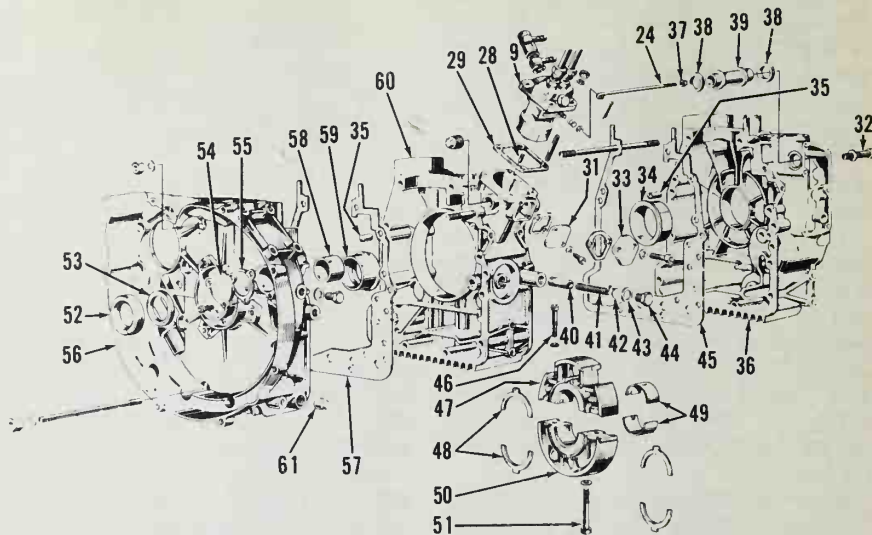
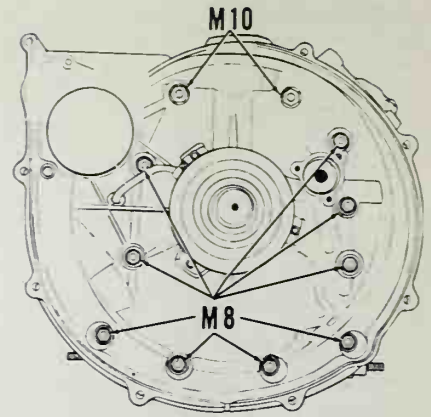

Fig. W2-14—Exploded view of crankcase assembly.
Fig. W2-23—View showing location of M8 and M10 nuts in flywheel crankcase section.
Distance (D—Fig. W2-17) between speed control rod ends should be 129 mm. Remove cover (31—Fig. W2-14) and place a rag underneath control rod so cotter pin cannot fall into crankcase. Detach cotter pin securing rod end and withdraw control rod (24). Adjust length of control rod by turning rod end (73—Fig. W2-17).
The camshaft is supported by bushings in the gear cover and crankcase. To inspect bushing (58-Fig. W2-14) in crankcase, remove flywheel and cover (54). If camshaft bushing (58) must be renewed, disassemble crankcase. Maximum allowable camshaft journal clearance is 0.2 mm. Camshaft bushings are available in undersizes of 0.25 and 0.50 mm.
R&R AND OVERHAUL. Refer to Fig. W2-14 for an exploded view of crankcase which is constructed in three sections: flywheel end, center and pto end.
is equipped with a fuel transfer pump. Unscrew eleven retaining nuts from crankcase flywheel section and separate flywheel section from remainder of crankcase. Remove socket head screw (32—Fig. W2-14 or W2-21) adjacent to camshaft bore. Separate center crankcase section with crankshaft from pto crankcase section. Remove control rod tube (39) and seals (38). Detach connecting rods. Unscrew two socket head screws (51) in bottom of center crankcase which secure main bearing support in crankcase. Press crankshaft and main bearing support out of center crankcase. Unscrew main bearing support screws (46) and separate support halves (47 and 50) from crankcase.
Install connecting rods and tighten rod nuts to 34.3 N·m. With control rod tube (39—Fig. W2-14) and seals (38) in place, mate pto crankcase section (36) with center crankcase section (60). Install socket head screw (32—Fig. W2-14
case section (56—Fig. W2-14) with center crankcase. Tighten M8 nuts to 24.5 N·m and M10 nuts to 34.3 N·m (see Fig. W2-23). If not previously tightened, tighten pto crankcase socket head screw (32—Fig. W2-14 and W2-21) to 34.3 N·m. Tighten main bearing support retaining screws (51—Fig. W2-14) to 39.2 N·m. Complete remainder of reassembly by reversing disassembly procedure.